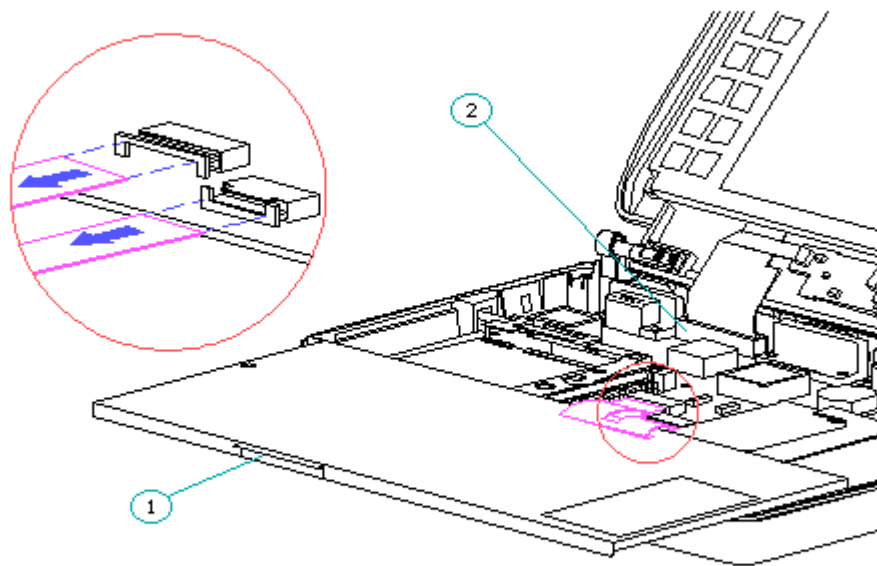

Figure 3-10. Laying the Keyboard Upside Down on Top of the Battery Compartment and Disconnecting the Keyboard Cables
5. Rotate the rear of the keyboard toward you until the two ZIF connectors are exposed and lay the keyboard upside down on top of the battery compartment (Figure 3-10).
6. Using the Case utility tool, carefully lift up on the two ZIF sliders one at a time to release the keyboard cables (Figure 3-10).
NOTE: When replacing the keyboard, position the clip on the rear of the keyboard [1] on top of the display cable ZIF slider [2] (Figure 3-10).